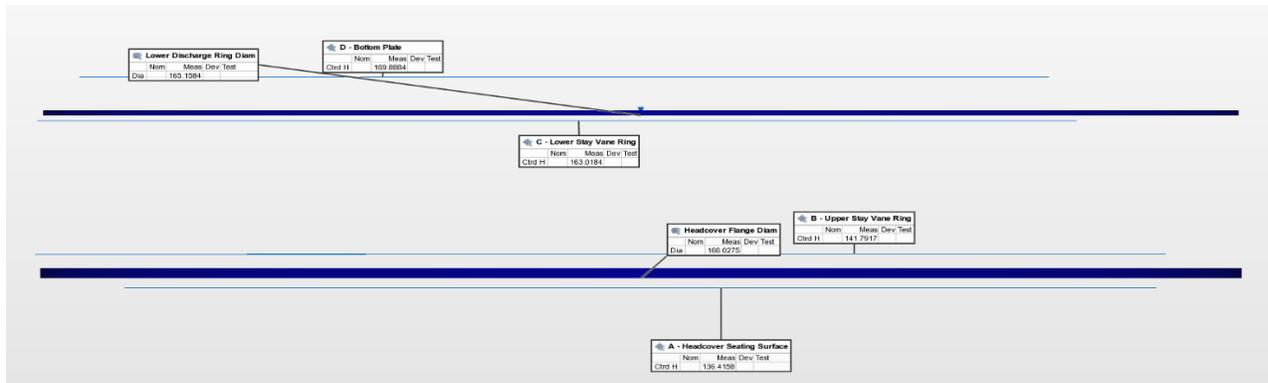

Figure 8: Distributor best-fit features
**Analysis:** PolyWorks was able to run statistics and map surfaces as best-fit planes and cylinders as shown in Figure 8.